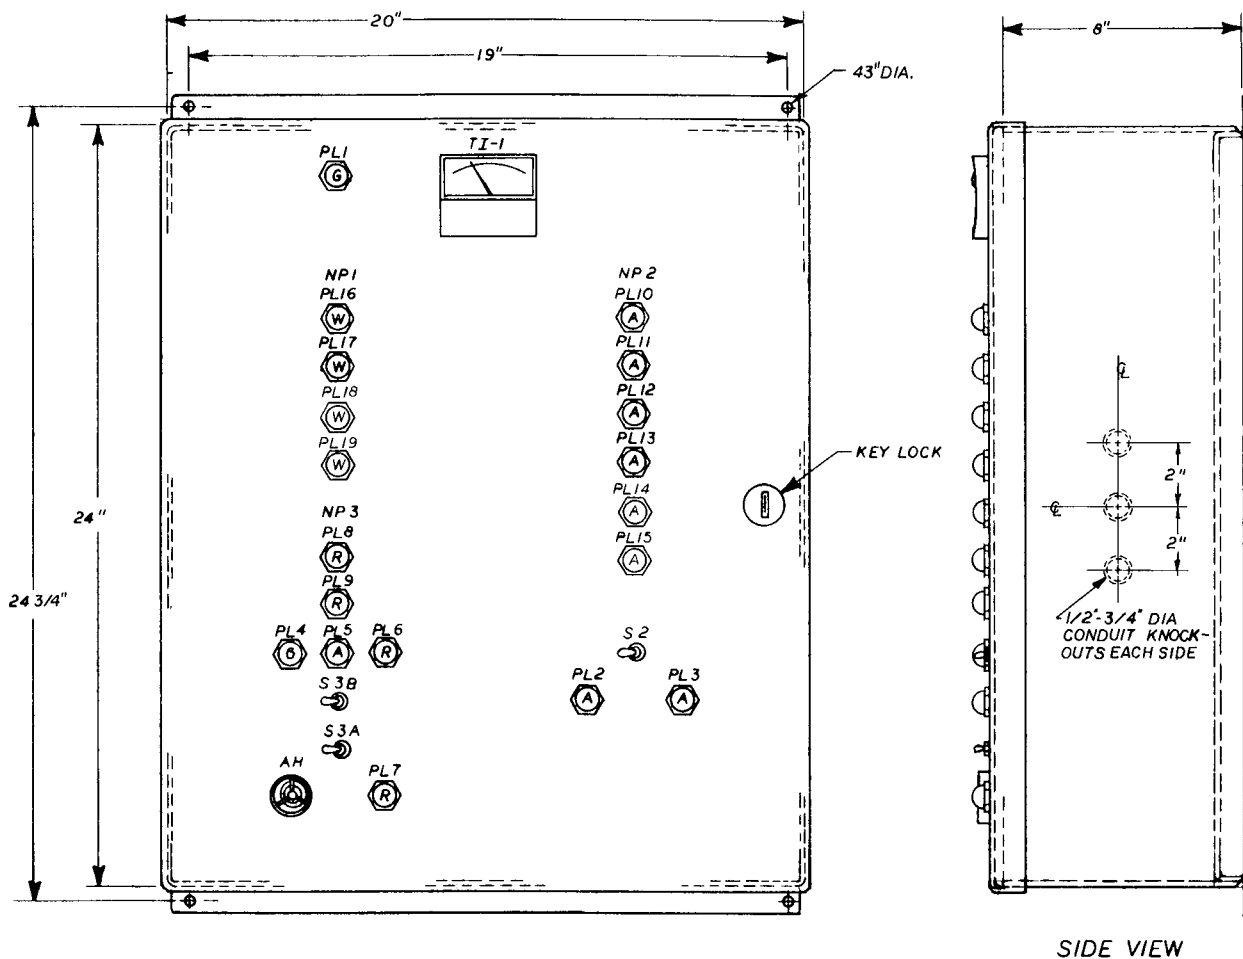

**Fig. 1 — Accessory Loop Control Panel
The Carrier Loop Control Panel (Fig. 1) is designed for use with Model 50HQ, VQ, QE, KQ Water Source Heat Pumps. Its purpose is to monitor and control conditions within a building's water source heat pump water loop while automatically initiating the following functions:
Step 3 — Mount Panel — Mount panel to a wall using field-supplied screws or bolts, installing them through the 1/2-in. mounting holes provided at each corner of panel. See Fig. 1. Be sure to allow ample space to enable opening keylocked access door.